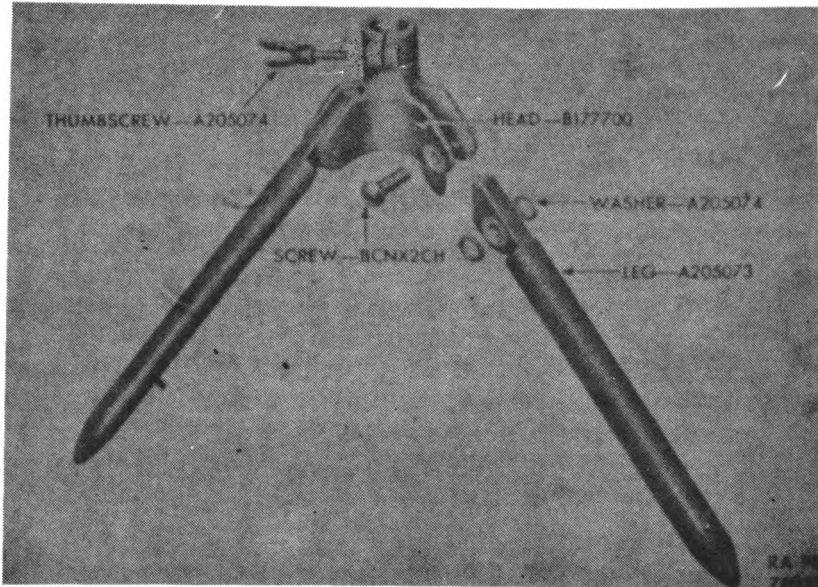

Figure 24—Tripod M14—Leg Assembly—Partially Disassembled
b. *Disassembly of the Leg Assembly.* Remove the screws BCNX2CH that hold the legs to the head (fig. 24). Remove the washers. Pull the legs from the head.